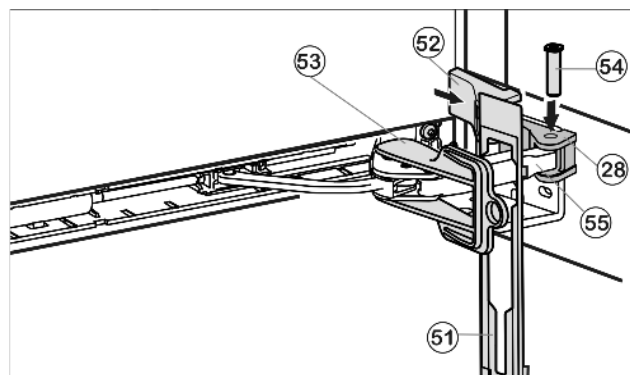

Fig. 32
- ▶ Hook panel *Fig. 32 (51)* into the damper bracket such that the detent hooks are pointing forwards and the front side is facing the appliance.
- ▶ Pull damper bracket *Fig. 32 (55)* towards bearing part *Fig. 32 (28)* and insert bolt *Fig. 32 (54)* from above such that the square is resting in the recess.
- ▶ Place cover *Fig. 32 (52)* on top and snap into place.
- ▶ Remove locking device *Fig. 32 (53)* by twisting it.
- ▶ Snap panel *Fig. 32 (51)* into place on the door.